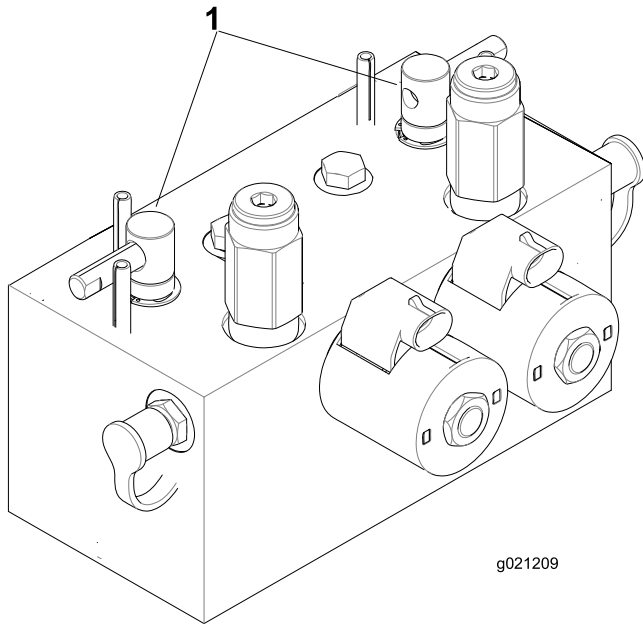

Figure 75
2. Unlock and raise the seat to expose the backlap levers (Figure 75).
5. Select either the front, rear, or both backlap levers to determine which units to backlap (Figure 75).